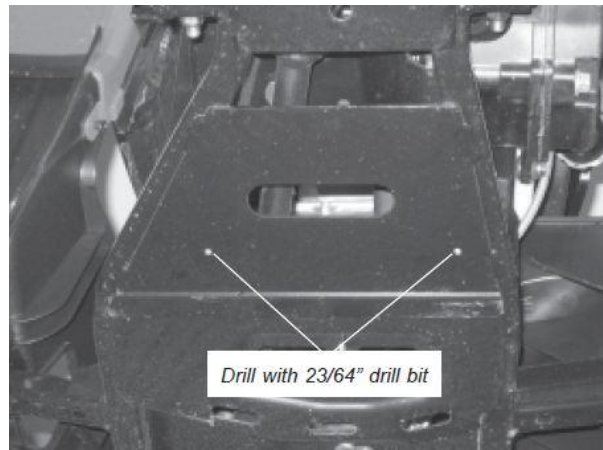

Figure 3
- Using a $\frac{23}{64}$ " drill bit, drill holes into the factory skid plate marked in step two (Figure 3) **Caution:** Make sure the area behind the factory skid plate is clear before drilling.